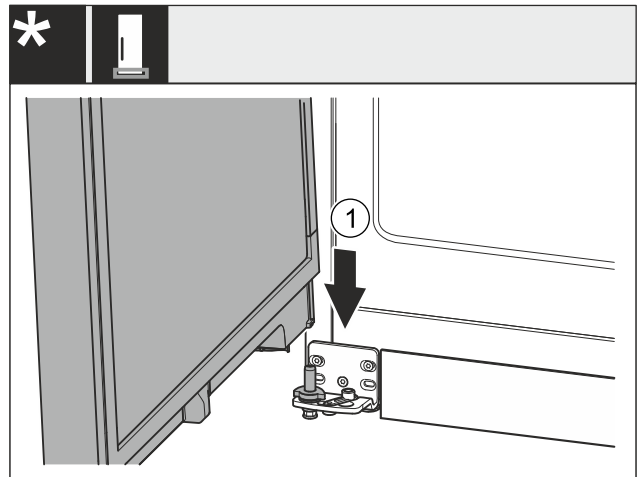

Fig. 43 *
- Lower the door onto the bottom bearing bolt Fig. 43 (1).*